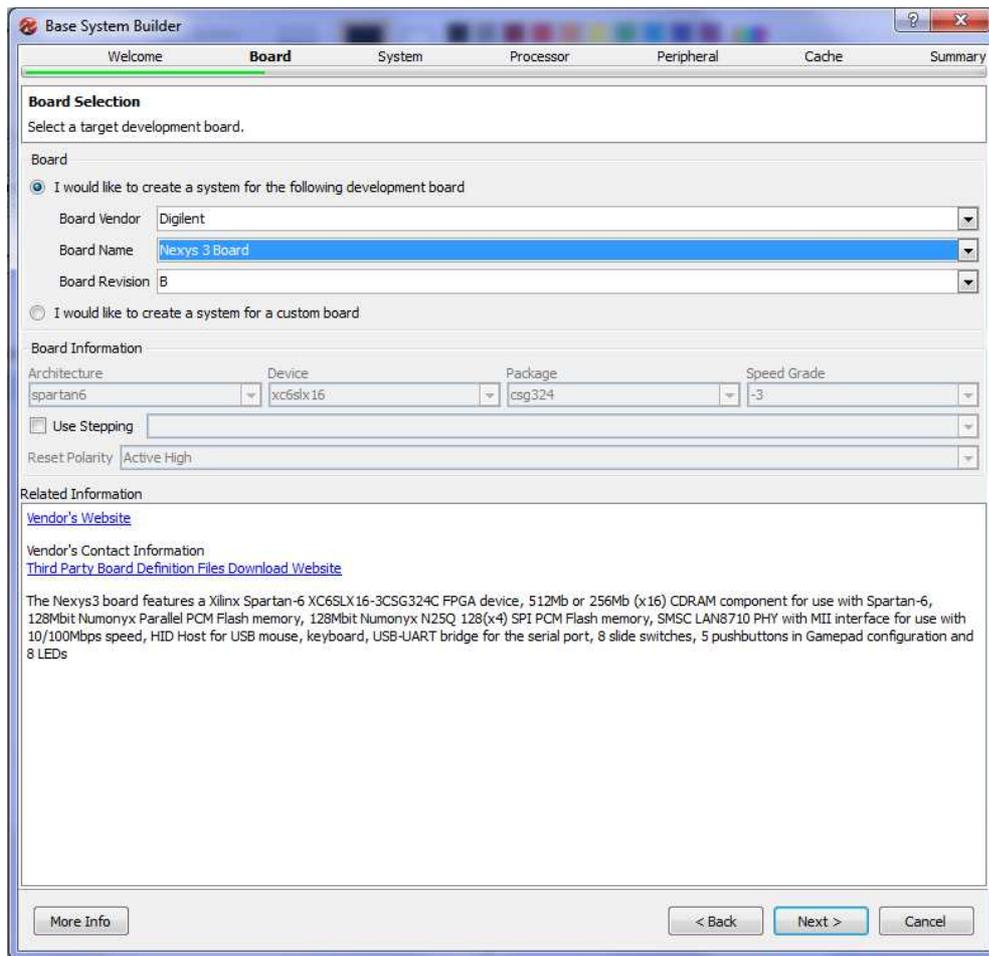

Figure 5. Board Selection (Step 5)
**Step 5:** The second screen of the wizard is shown in **Figure 5**. In this screen we select the board that we want to use to build the system. The XPS allow you to build a design based on a specific board or create a custom design that is generic. Select the first option **“I would like to create a system for the following development board”**. This will allow you to select a specific board. The board is specified by three options:
The Nexys 3 board is equipped with Spartan 6 FPGA chip which is a mid-size FPGA from Xilinx. The board has several peripherals that can be used with the FPGA to perform several functions (See **Figure 5**):